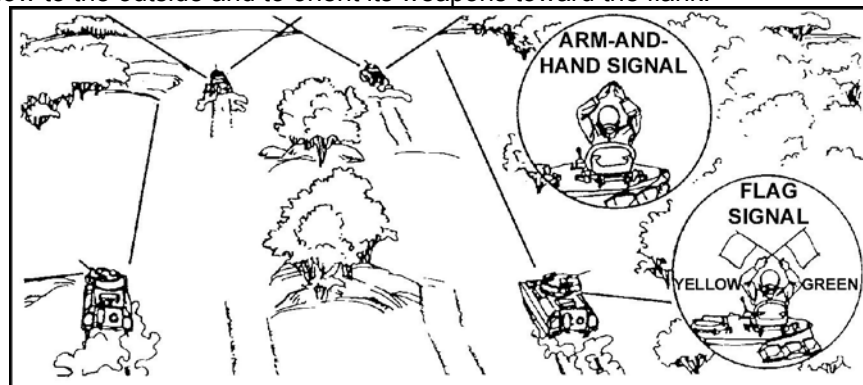

Figure 4. Wedge formation.
- d. Select the wedge formation when the enemy situation is vague (Figure 4). This formation provides excellent fire to the front and good fire to each flank. It also allows control of the BFVs and rapid deployment into other formations. The orientation of the pairs is left and right. The platoon leader and platoon sergeant control the other BFV (wingman) of their pair by directing it to follow to the outside and to orient its weapons toward the flank.